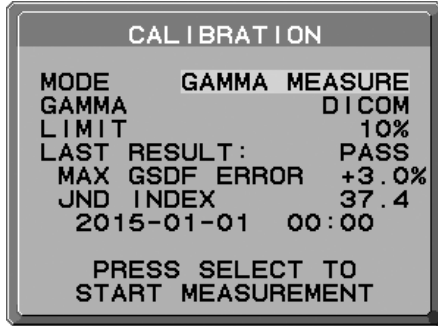

Figure D.1
2. Use “LEFT” or “RIGHT” to select GAMMA MEASURE in the MODE selection (**Figure D.1**).